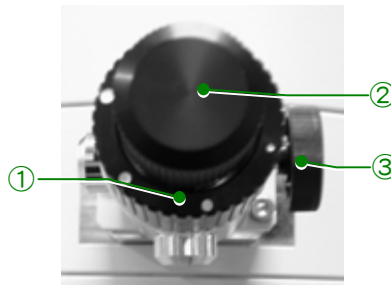

Fig. 4.1 Condenser lens aperture knobs
- Condenser aperture control knobs (☞ Fig. 4.1)